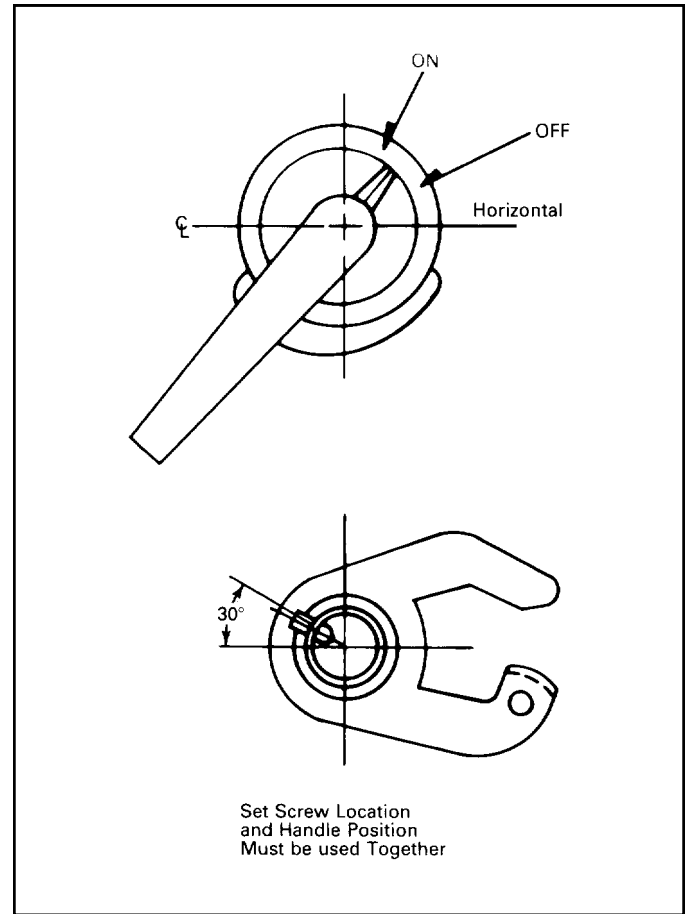
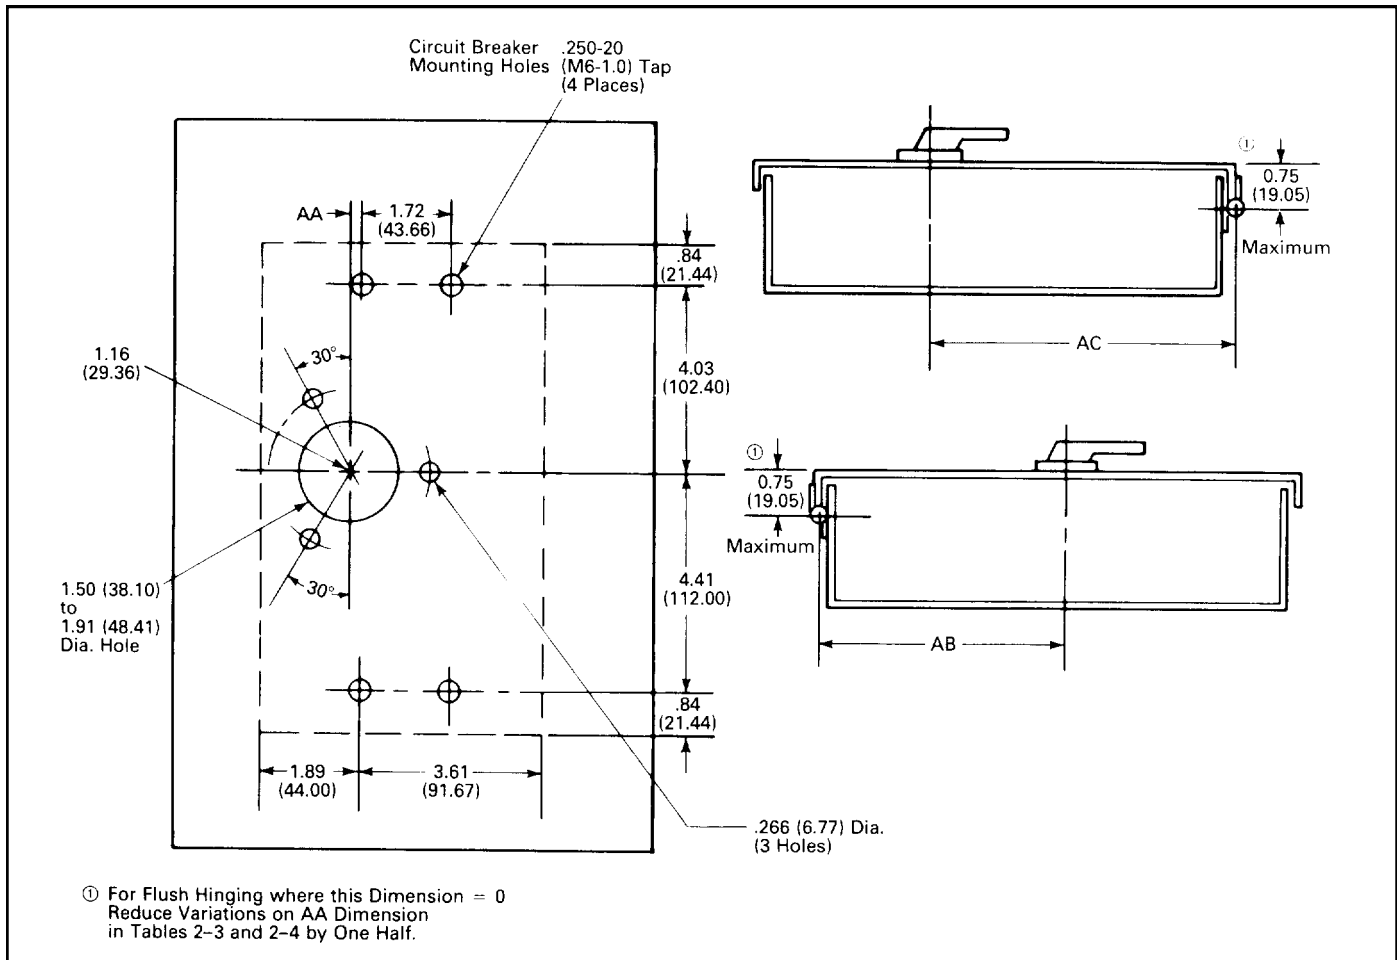

Fig. 2-6 Diagonal Handle Position, K-Frame Series C Circuit Breaker
Fig. 2-7 Enclosure Drilling Plan, K-Frame Series C Circuit Breaker
① Refer to Fig. 2-7 to apply the dimensions in this table.
② Dimensions are shown in inches, with millimeters in parenthesis.
③ Where cabinet hinging produces a difficult handle/shaft engagement angle, dimension variations are given to permit easier engagement when closing the cabinet door. Avoid maximum variations where possible.
Table 2-4. Enclosure/Handle Assembly Location Dimensions For K-Frame Series C Circuit Breakers For Use With Diagonal Handle Position Only (Fig. 2-6)^{①②③}